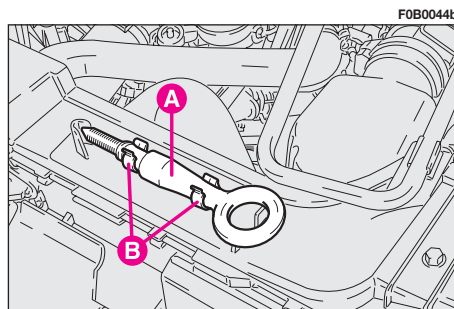

fig. 42
– remove the tow hitch **A**-fig. 42 from its supports **B**;